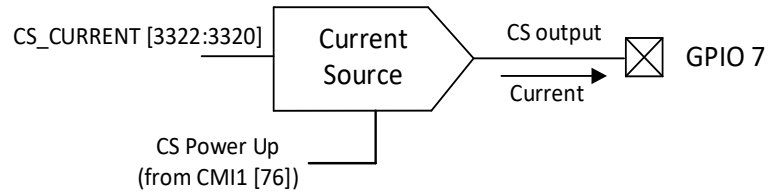

Figure 176. Current Source Structure
The Current Source (CS) is a macrocell that outputs (sources) a constant current to the load connected to GPIO7 (Figure 176). The current value is selected by a register CS\_CURRENT [3322:3320] and can range from 1  $\mu$ A to 100  $\mu$ A (1, 2, 5, 10, 20, 50, 100  $\mu$ A).